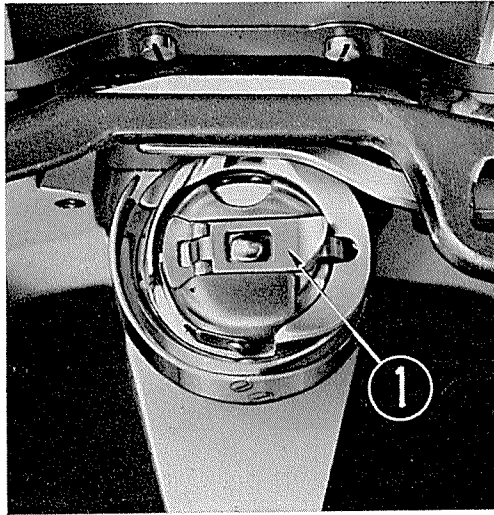

Fig. 6
Turn the hand wheel toward you until the needle bar gets to its highest position, open the slide plate by pulling it to the left, put your left hand under the table to raise the latch (1) (Fig.6) with the thumb and the first finger, and then pull out the bobbin case. Since the bobbin would be kept within the bobbin case so long as the latch is raised, you should release the latch and hold the bobbin case upside down for removing the bobbin from the case.